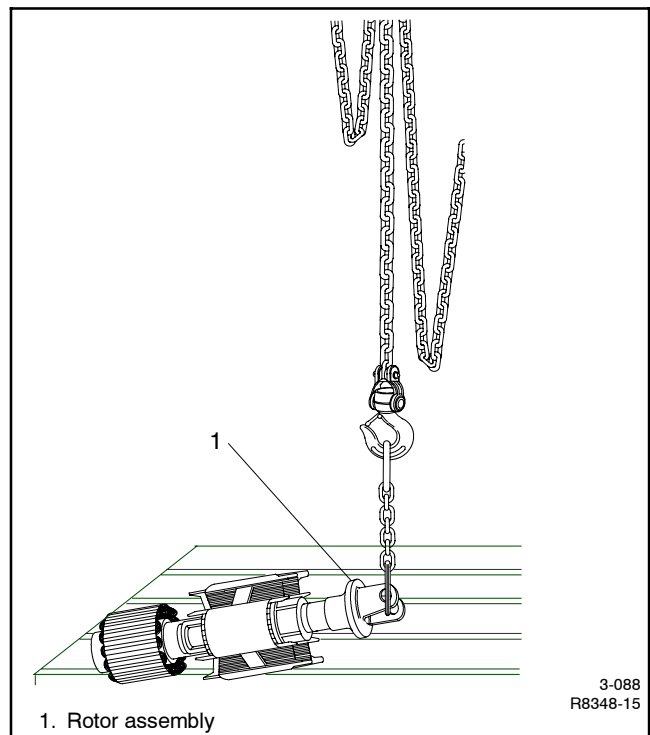

Figure 4-8 Lowering Rotor
20. Slowly lower the rotor to the horizontal position. Set the rotor on a wooden surface. Take care not to damage the windings, laminations, or bearing. See Figure 4-8.